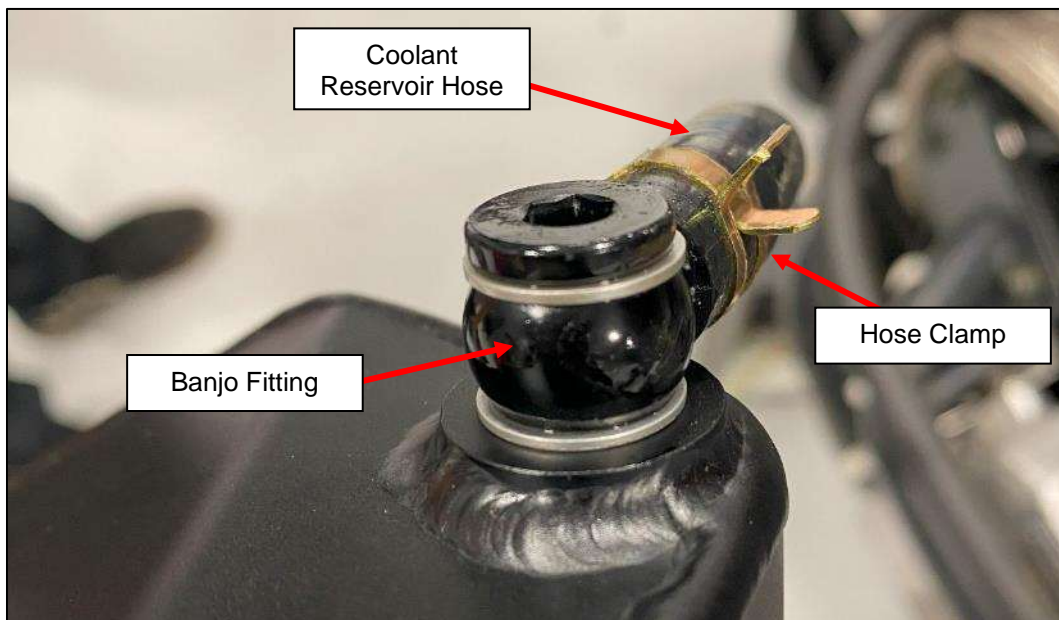

Figure 64
6. Locate the 350Z Coolant Reservoir Hose (#70) and (2) two Hose Clamps (#31). Position a Hose Clamp on each end of the Reservoir Hose.
7. Attach one end of the Coolant Reservoir Hose to the Banjo Fitting on the Coolant Overflow Tank installed in *Step 5*. Secure the Hose with the Hose Clamp. *Figure 64*.